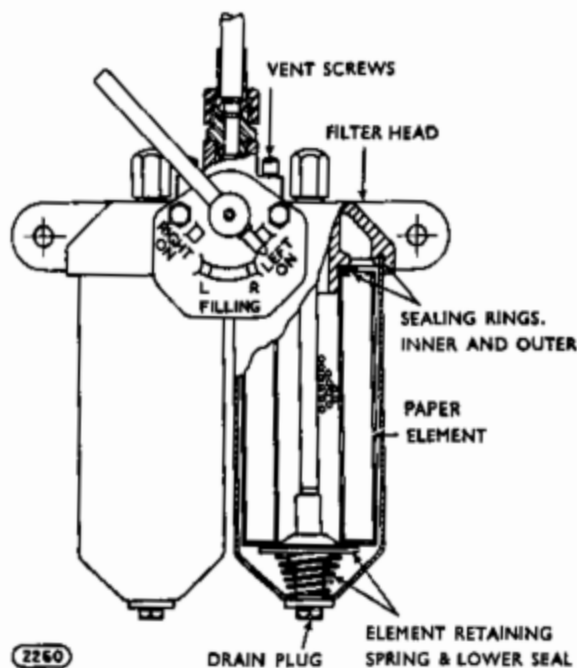

Fig. 12. Duplex Type Fuel Filter
32. DUPLEX TYPE FUEL FILTER. This filter unit, designed primarily for marine installations, contains two paper filtering elements Part No. GFF3/10, either of which can be brought into operation by rotation of the change-over valve in the filter head. The change-over valve permits the cleaning and replacement of one element whilst the other element is still in operation and the vessel under way. See Fig. 12.